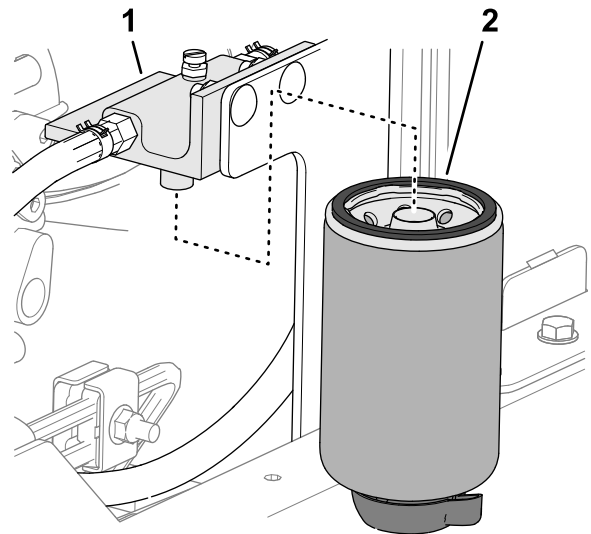

Figure 116
2. Clean the filter head and filter canister (Figure 116).